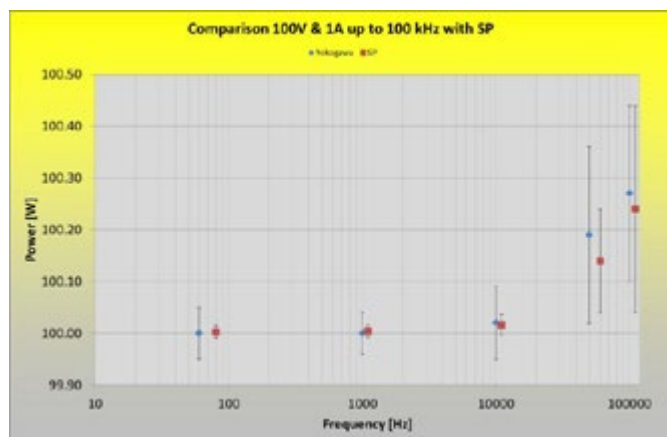

Figure 2: Power Comparison with SP
To confirm the calibration setup, a Yokogawa WT3000 power analyser was calibrated by Yokogawa, and then sent to the national Standards Laboratory of Sweden (SP). At SP they also calibrated the Yokogawa WT3000 at the same points which verified the results (Figure 2).